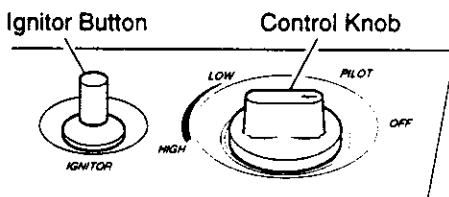

Figure 16 - Control Knob In The OFF Position
4. Wait five (5) minutes to clear out any gas. Then smell for gas, including near the floor. If you smell gas, STOP! Follow "B" in the safety information on page 11. If you don't smell gas, go to the next step.
5. Press in control knob and turn counterclockwise  to the PILOT position. Keep control knob pressed in for five (5) seconds (see Figure 16).